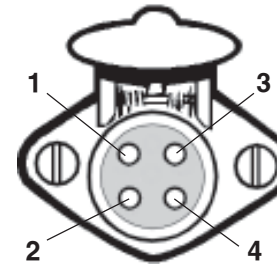

Figure 13
shown in Figure 13. Or, wire the socket to match the existing wiring on the motorhome.
5. If the motorhome does not have the correct wiring socket already, you can replace it with the new socket for the four-wire cord, and connect the appropriate wires to the new socket, according to Figure 13.